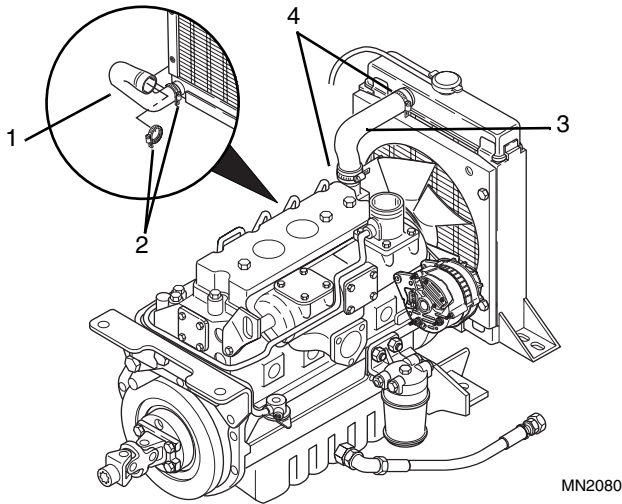

Figure 10-41 Radiator Hose Removal
12. Connect the lower radiator hose (Fig. 10-41, 1) to the engine, and tighten both clamps (2). Connect the upper radiator hose (3) to the engine, and tighten both clamps (4).